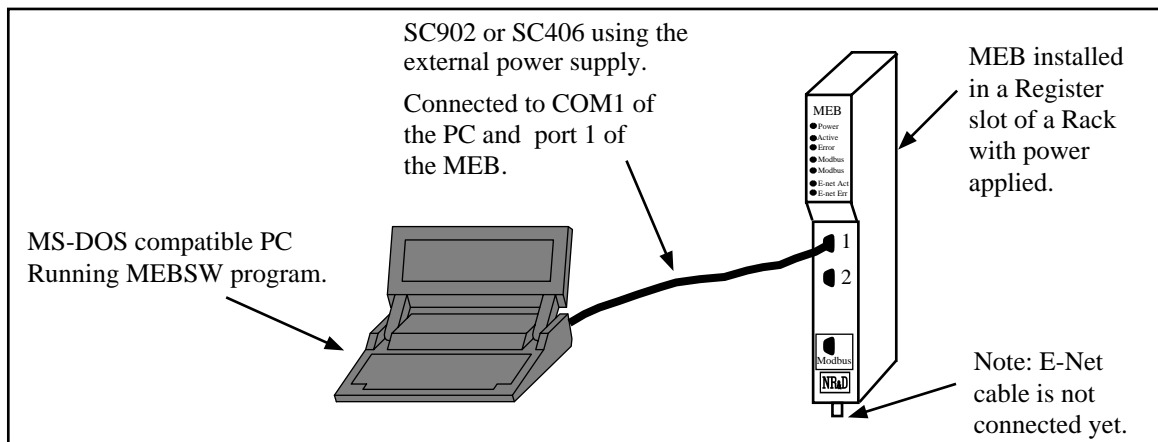

Figure 2-3 MEB Initial Configuration Setup
- 1 Connect the personal computer to the MEB using a RS-422 connection. The MEB should receive its initial configuration by direct connection from an MS/DOS® personal computer COM: port (See Figure 2-3). Niobrara's SC902 RS-232 to RS-422 converter cable can be used to make this connection. Ports 1 and 2 provide full handshaking of the RTS/CTS pins and do not provide power for the smart cable. **The external power supply for the Smart Cable must be used.** The factory default configuration for the module is that all ports are SY/MAX, 9600 baud, 8 data bits, EVEN parity, 1 stop bit so any port may be used for configuration.
If an error occurs in communicating with the MEB, an error window will open in the lower right corner. F10 will clear the error. Check the COM port setting, route setting, and your cabling. For a direct connection as in Figure 2-3, the default settings should work. For more information about the setup parameters of MEBSW see page 167.